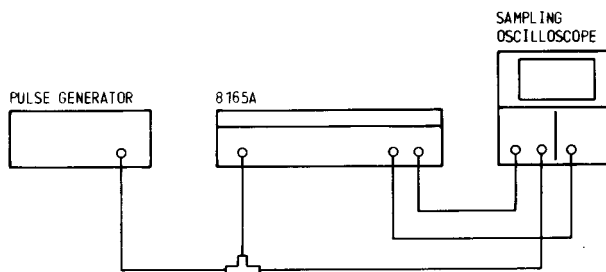

Figure 4-8. Test Setup for Burst Gate and Trigger Performance
1. Connect the equipment as shown in Figure 4-8.